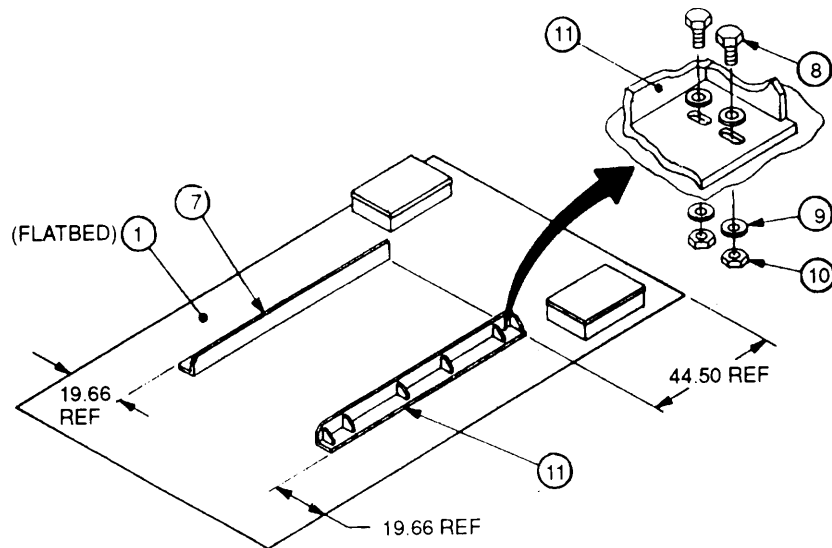

Figure 4-8. Tank Mounting Angle Installation.
- (3) Orient and position tank mounting angles, (7) and (11), on flatbed at approximately 44.50 inches from front edge and 19.66 inches from side edge. See Figure 4-8.
- (4) Loosely attach angles to flatbed using eight bolts, (8), sixteen washers, (9), and eight nuts (10). Move angles outboard (on flatbed) as far as slots (in angles) will permit.